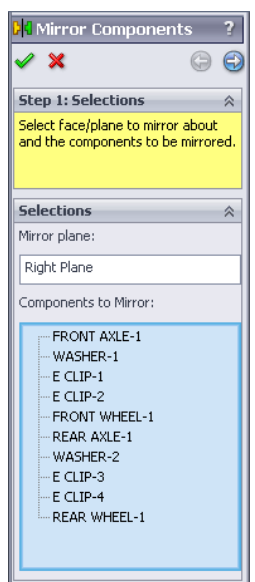

Fig. 37
Step 5. In the Mirror Property Manager click OK , **Fig. 37**.